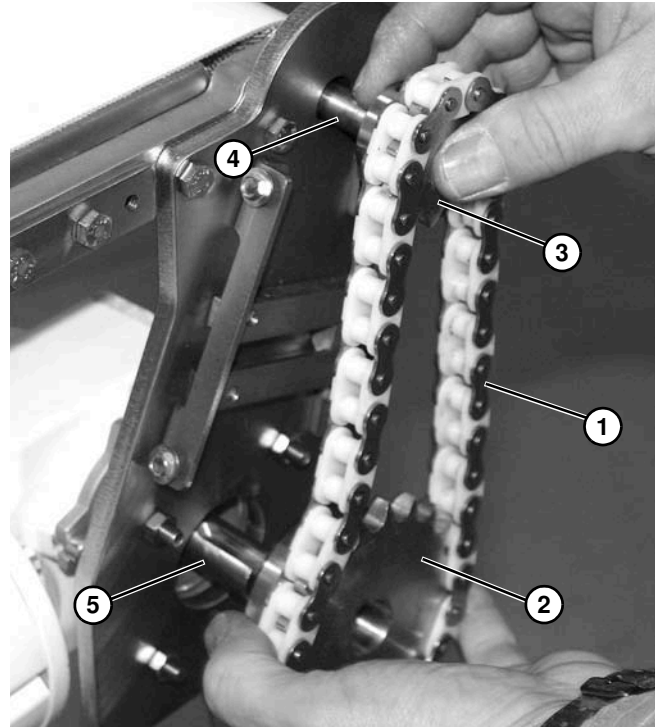

Figure 53
6. Remove timing chain (Figure 53, item 1) along with drive sprocket (Figure 53, item 2) and driven sprocket (Figure 53, item 3) from conveyor input shaft (Figure 53, item 4) and gearmotor output shaft (Figure 53, item 5). Make sure to retain sprocket keys.